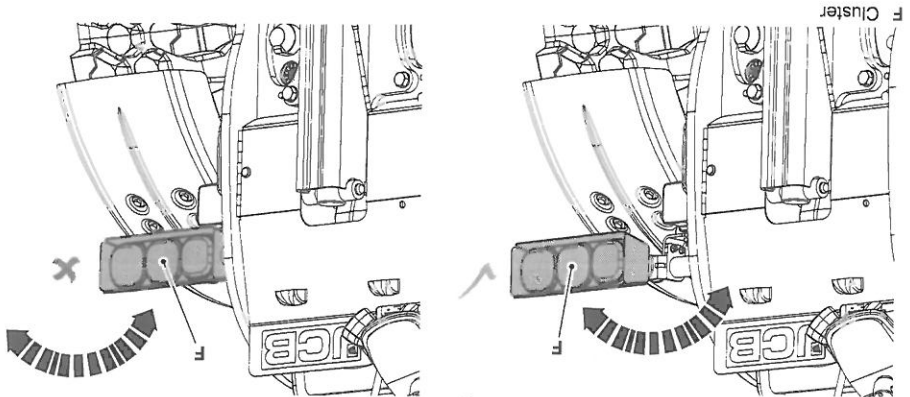

Figure 53.
- 9. 1. Move the rear light cluster to the horizontal position. The cluster is spring loaded by its rubber mounting bush. To swing it up or down, whichever is applicable to your machine, pull the cluster slightly rearward to disengage, then swing it to the new position as shown. Refer to Figure 53.